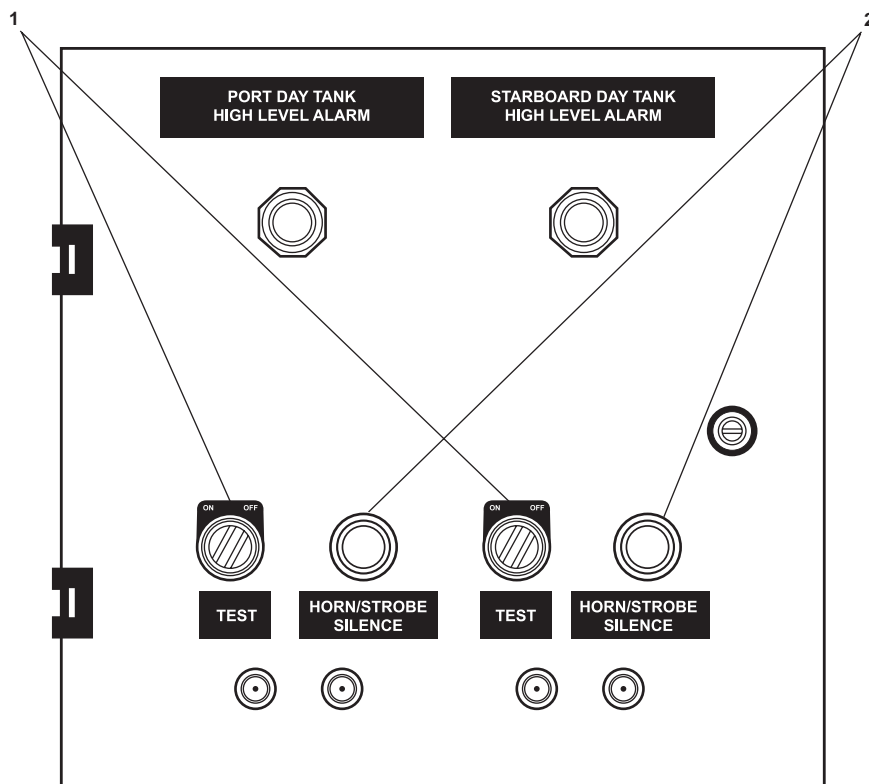

Figure 5. High Level Alarm Panel
- c. Set the ON-OFF switch (figure 5, item 1) to OFF
- d. Verify that the POWER AVAILABLE indicator (figure 5, item 2) goes out.
- b. In the engine room, at the fuel oil transfer station, test the port and starboard day tank high level alarm panel by momentarily placing each TEST switch (figure 5, item 1) in the ON position.
- c. If necessary, secure the tested alarm by momentarily pressing the HORN/STROBE SILENCE pushbutton (figure 5, item 2) on the port and starboard day tank high level alarm panel.